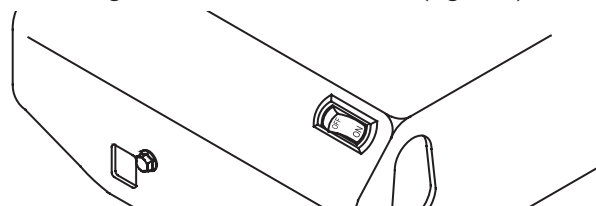

Figure 9 — Engine Rocker Switch
4. Push engine rocker switch to “On” (Figure 9).
3. Push engine rocker switch to “**Off**” position (Figure 9).